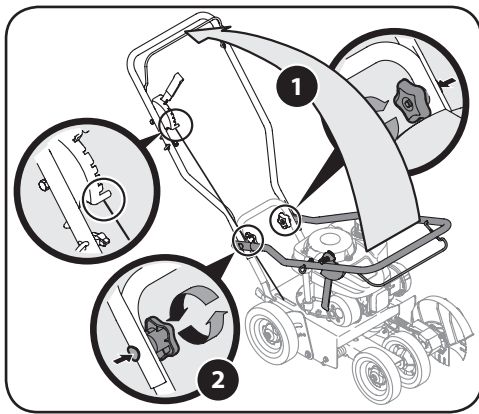

Figure 3-1
1. Pivot the upper handle upward until it snaps into place. See 1 in Figure 3-1.
2. Tighten the star knobs (a), which are located on both the left and right sides of the handle. See 2 in Figure 3-1.